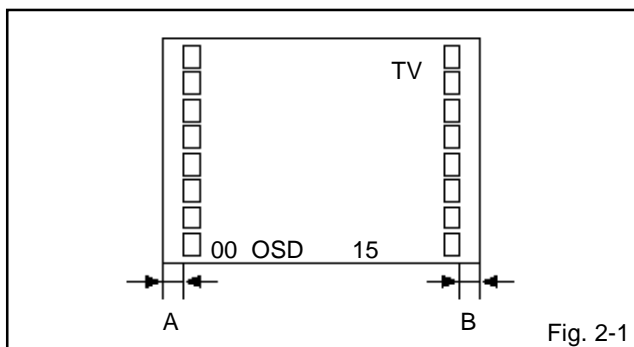

Fig. 2-1
2. Press the VOL. UP/DOWN button on the remote control until the difference of A and B becomes minimum. **(Refer to Fig. 2-1)**